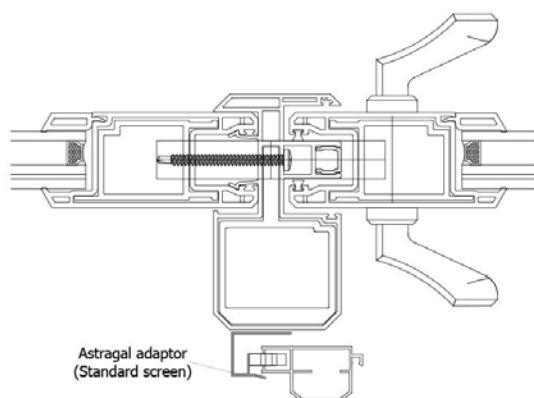

Figure 29a
45. Pre-drill 11/64" (0.171") pilot holes so that the astragal adapter (Item 34) attaches to the astragal base on the glass panel. Use five screws (Item 46) to install the adaptor. Once installed, latch keepers may be installed and adjusted to make proper contact with the latch P-cam. Caulk any seams where the astragal or astragal adapter meets the frame head and sill (Figures 29a and 29b).